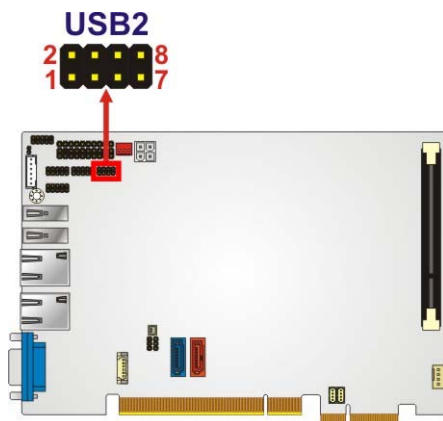

Figure 3-17: USB Connector Location
- CN Location:** See **Figure 3-17**